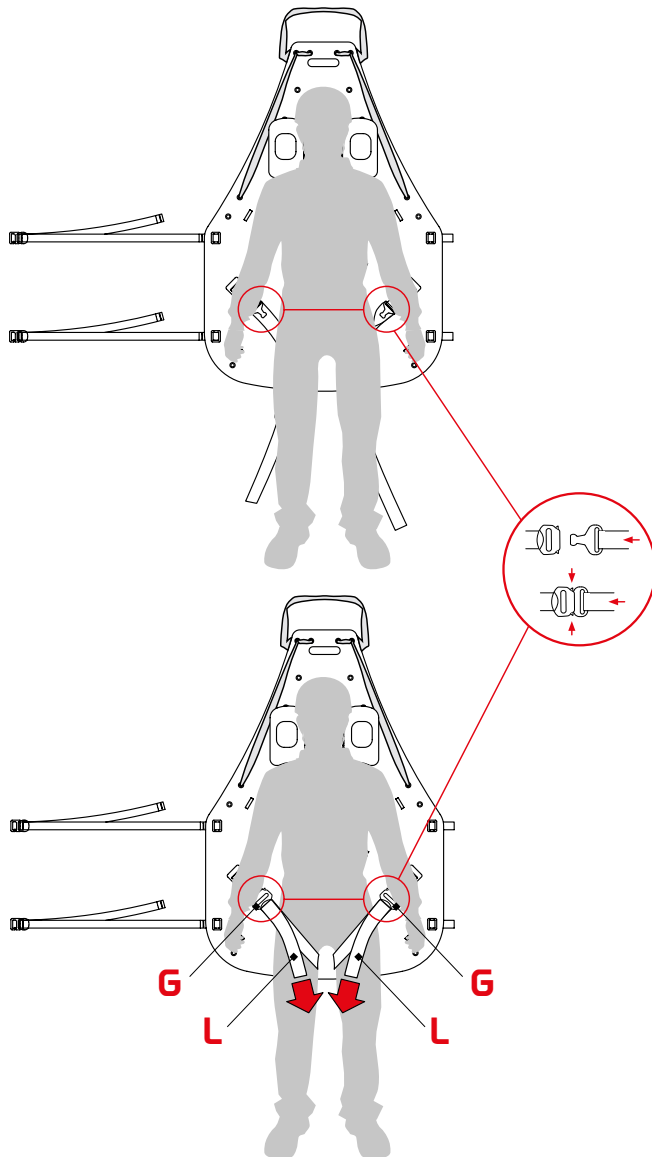

Fig.16
- Release the automatic buckles (G) and tension the thigh straps (L) - (fig. 16),